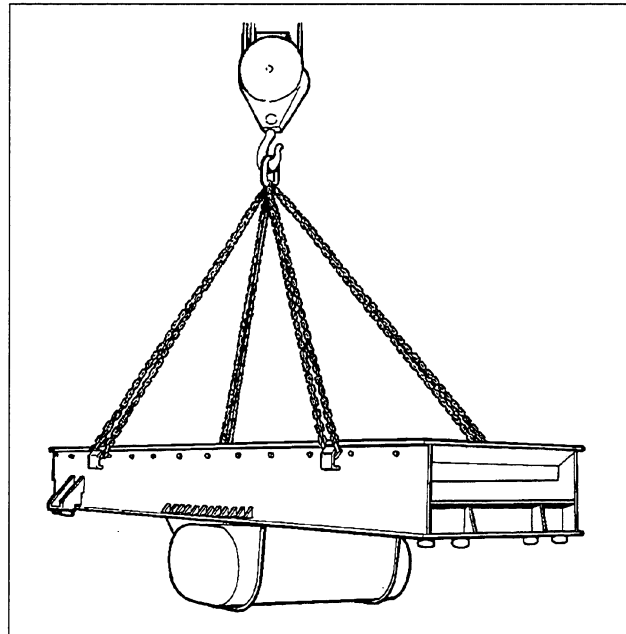

Figure 3-1. Feeder Lifting Points
1. Place the feeder on the ground near the structure upon which it will be installed. Use blocking under the feeder pan to prevent weight of the feeder from being supported by the vibrating unit. Remove metal straps and other shipping materials as required. See Figure 3-1 for lifting points.
4. Lift the feeder above the support structure. Carefully align and lower the feeder until it is supported by the springs. See Figure 3-1 for lifting points.